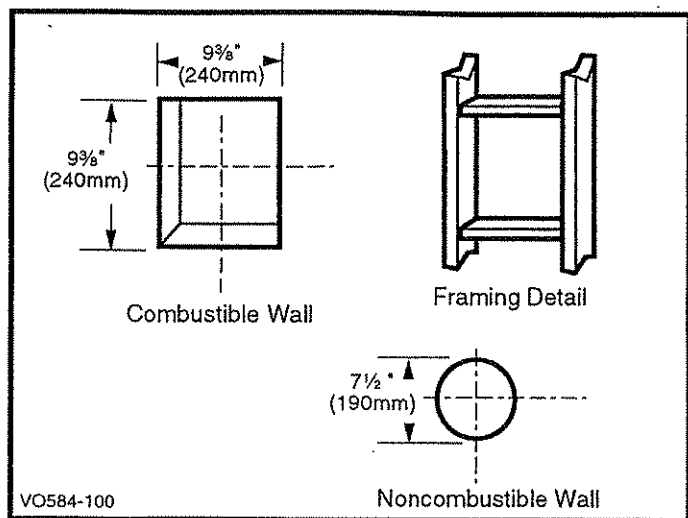
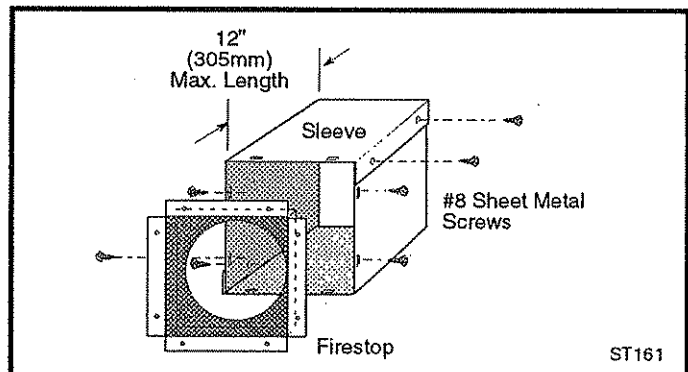

Fig. 29 Locate vent opening.
Fig. 30 Assemble the wall sleeve and firestop.
1. Locate the vent opening on the wall. If you are using the CFM or Simpson-Dura-Vent minimum vent kit, see Fig. 5, page 7 to determine the opening centerline. It may be necessary to first position the stove and measure to obtain the hole location. Depending on whether or not the wall is composed of combustible materials, cut the opening to the size shown in Figs. 29 and 31. Combustible wall openings must be framed in as shown in Fig. 30.
2. Measure the wall thickness and cut the Wall Sleeve sections to proper length, (MAXIMUM 12"). Assemble the sleeve with the #8 sheet metal screws supplied. Attach the Firestop plate to the sleeve end with the holes. (Fig. 30) **NOTE:** The Wall Sleeve is required in combustible walls only.